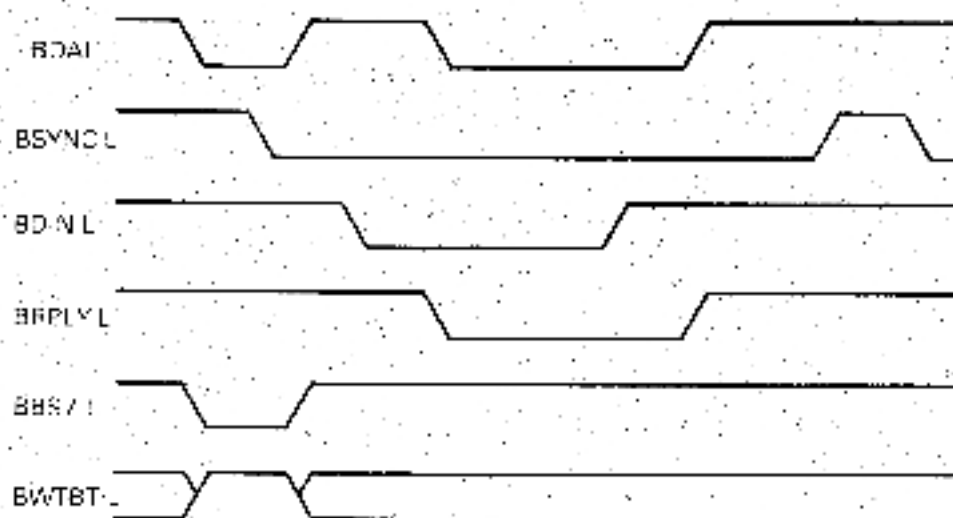

Figure 5-4 Data Input Timing
1. The CPU places the device address on Q-bus lines BDAL00 L to BDAL15 L, and asserts BBS7 L. BWTBT L is negated at this time because all input transfers are full words. (Figure 5-4).